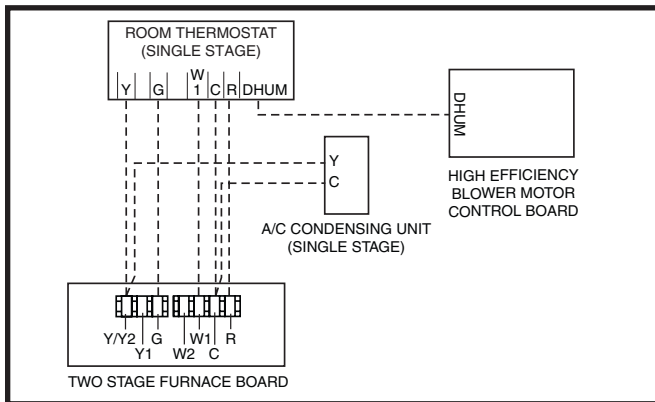
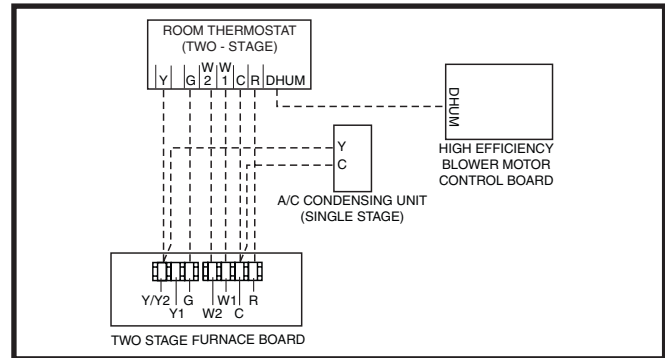
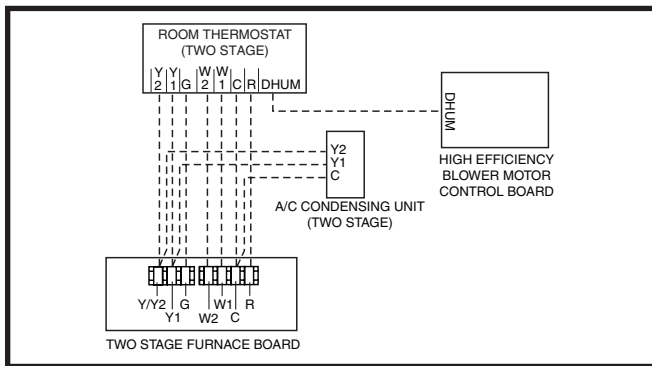

Figure 20. Wiring Configuration 1
Figure 21. Wiring Configuration 2
Figure 22. Wiring Configuration 3
- Connect the thermostat's **W** output to the furnace control boards **W1** terminal. This allows the furnace to always run in low output mode. See Figure 20.
This option uses the full two stage heating capability of the furnace with a single stage outdoor unit. See Figure 21.
This option uses the full two stage heating capability of the furnace with a two stage outdoor unit. See Figure 22.
The Autostaging feature makes it possible to use a single stage thermostat and still receive some of the benefits of 2-stage furnace operation. If Autostage is enabled, the furnace will drop to **LOW** fire after initially starting in **HIGH** fire. After a period of 10 minutes, the furnace will then stage up to **HIGH** fire, until the heating load is met. See Figure 20 and the Low Voltage Connection section on page 23.
- ✓ Verify that all needed thermostat wires are securely connected to the correct leads on the terminal strip of the circuit board. See Figure 20 (page 24), Figure 21 (page 24), & Figure 22 (page 25).
The operating sequences for the heating, cooling, and fan modes are described below. Refer to the field and furnace wiring diagrams: Figure 19 (page 24), Figure 20 (page 24), Figure 21 (page 24), Figure 22 (page 25) & Figure 30 (page 39), Figure 31 (page 40), Figure 32 (page 41), & Figure 33 (page 42).